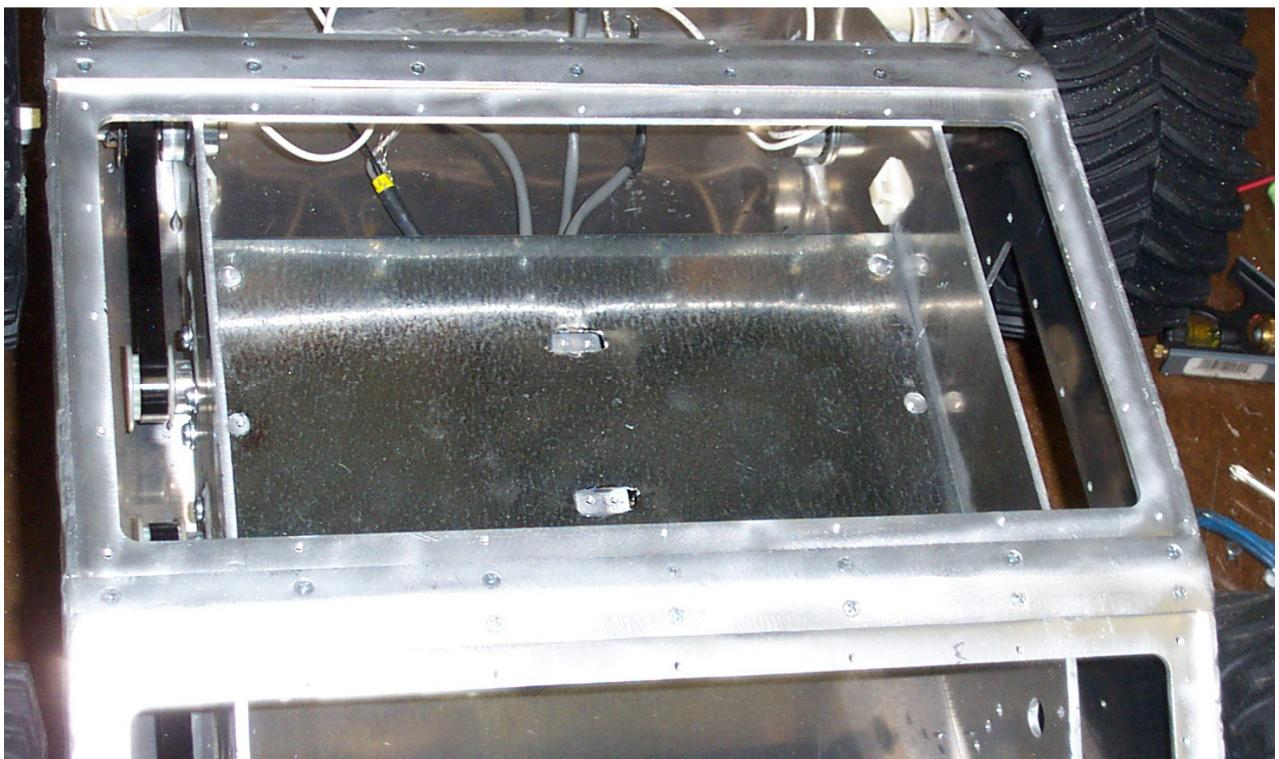

Figure 22: Enclosed ATR motor EMF shield
3. Mount the bent metal EMF shield over the motors. Cut outs will be needed for the holes to mount the top plates. Wires cutouts will also be needed on whatever side you plan on putting the motor controller(s). Refer to Figure 22